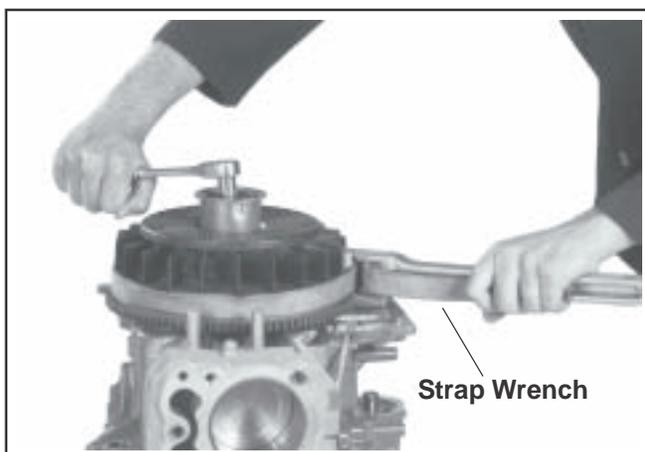

Figure 9-37. Removing Flywheel Retaining Screw and Drive Cup.
1. Remove the hex flange screw, plain washer, and recoil starter drive cup*. See Figure 9-37.